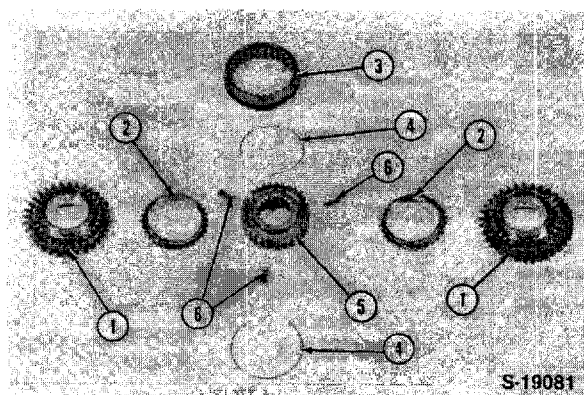
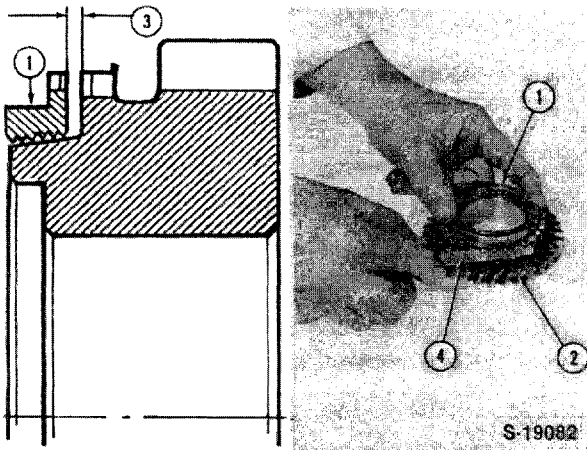

Figure 149
Figure 150
10. Inspect the synchronizer components for excess wear or other damage, Figure 149. Measure the cone wear between the synchronizer ring and gear, Figure 150. See "Wear Limit Specifications," Chapter 8.